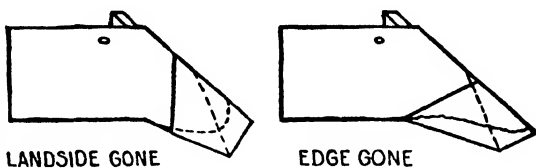

FIG. 79
1. Examine the worn point to determine how much of a point will be needed to bring the share to its original length, and to the width required. Fig. 79.